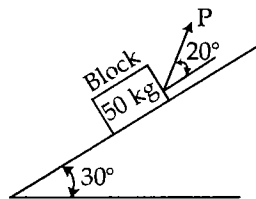

Fig. 3
- (b) For the block shown in the fig.3. Find the smallest value of P.